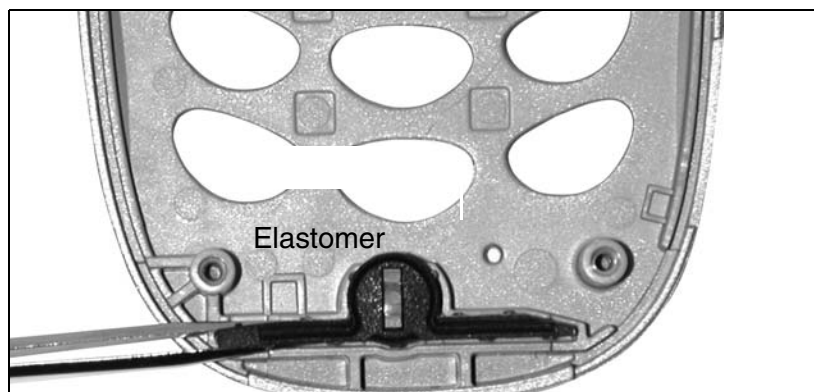

Figure 7-14.
2. Gently tamp down along length. Careful not to deform the mic seal “wings” (see Figure 7-14).